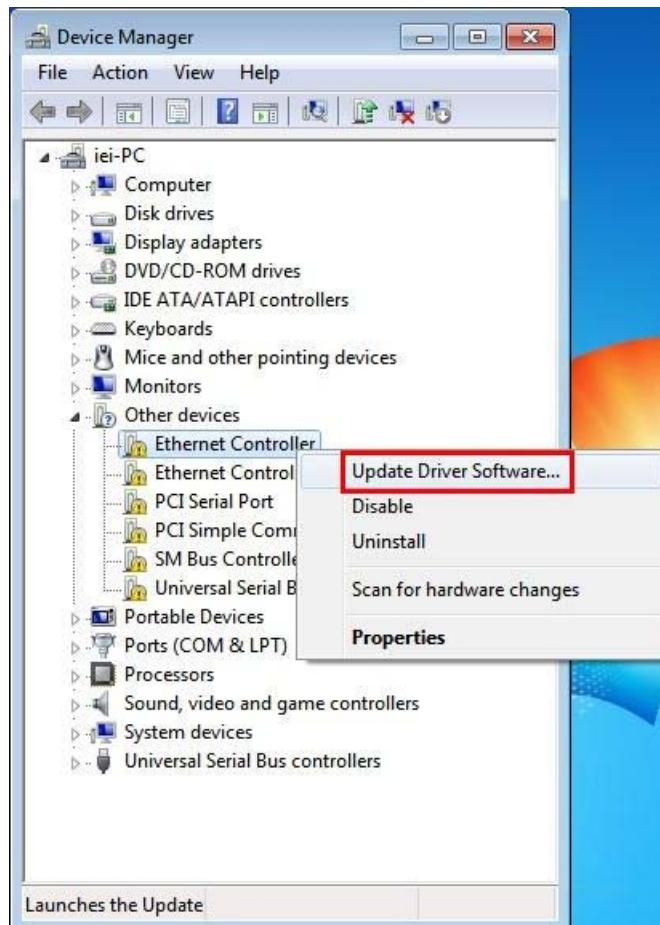

Figure 6-15: Device Manager List
Step 4: A list of system hardware devices appears (**Figure 6-15**).
Step 6: Select Update Driver Software. See Figure 6-15.
Step 13: Right-click the other Ethernet controller that has question marks next to it as shown in **Figure 6-15**. Repeat **Step 6 ~ Step 12** to install the second Ethernet controller driver.